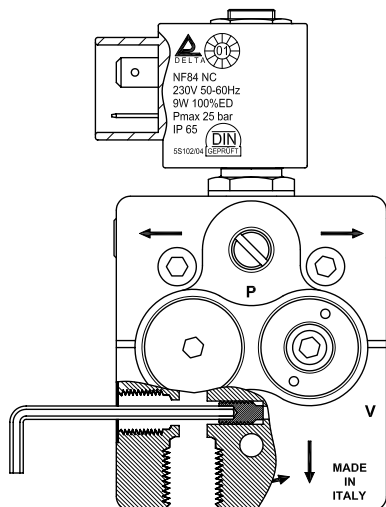

Fig. 2
3. Using a 2.5 mm Allen wrench, insert and screw the bypass plug in the vacuum gauge port (Fig. 2).
2. Using a 2.5 mm Allen wrench, unscrew the bypass plug from the vacuum gauge port (Fig. 2).